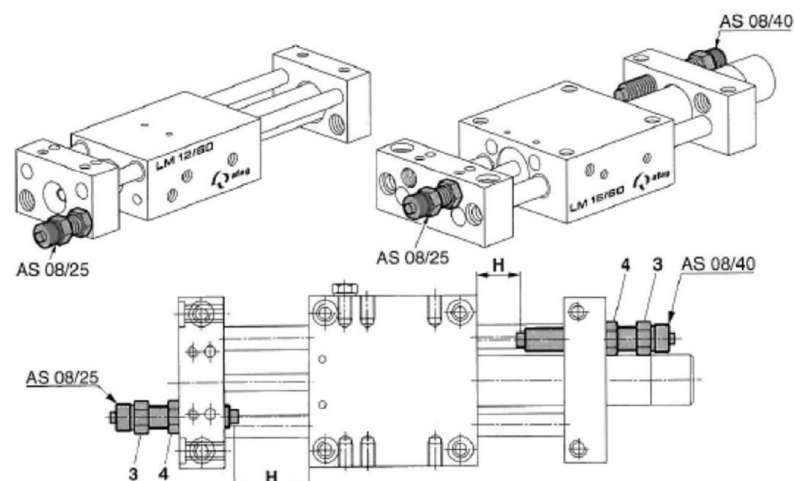

Fig. 20 Stroke adjustment with stop screws
1. Adjust the stroke (H) by adjusting the stop screw (Fig. 20, 3).
2. Fasten the stop screw with the lock nut (Fig. 20, 4).